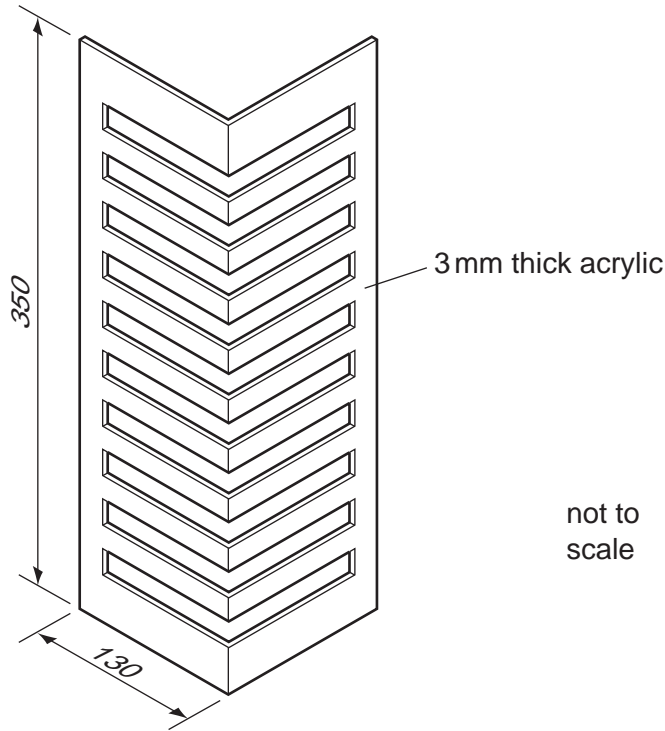

Fig. 10
12 Fig. 10 shows an incomplete design for a wall mounted DVD rack.
**(e)** The DVD rack shown in Fig. 10 is to be wall mounted.